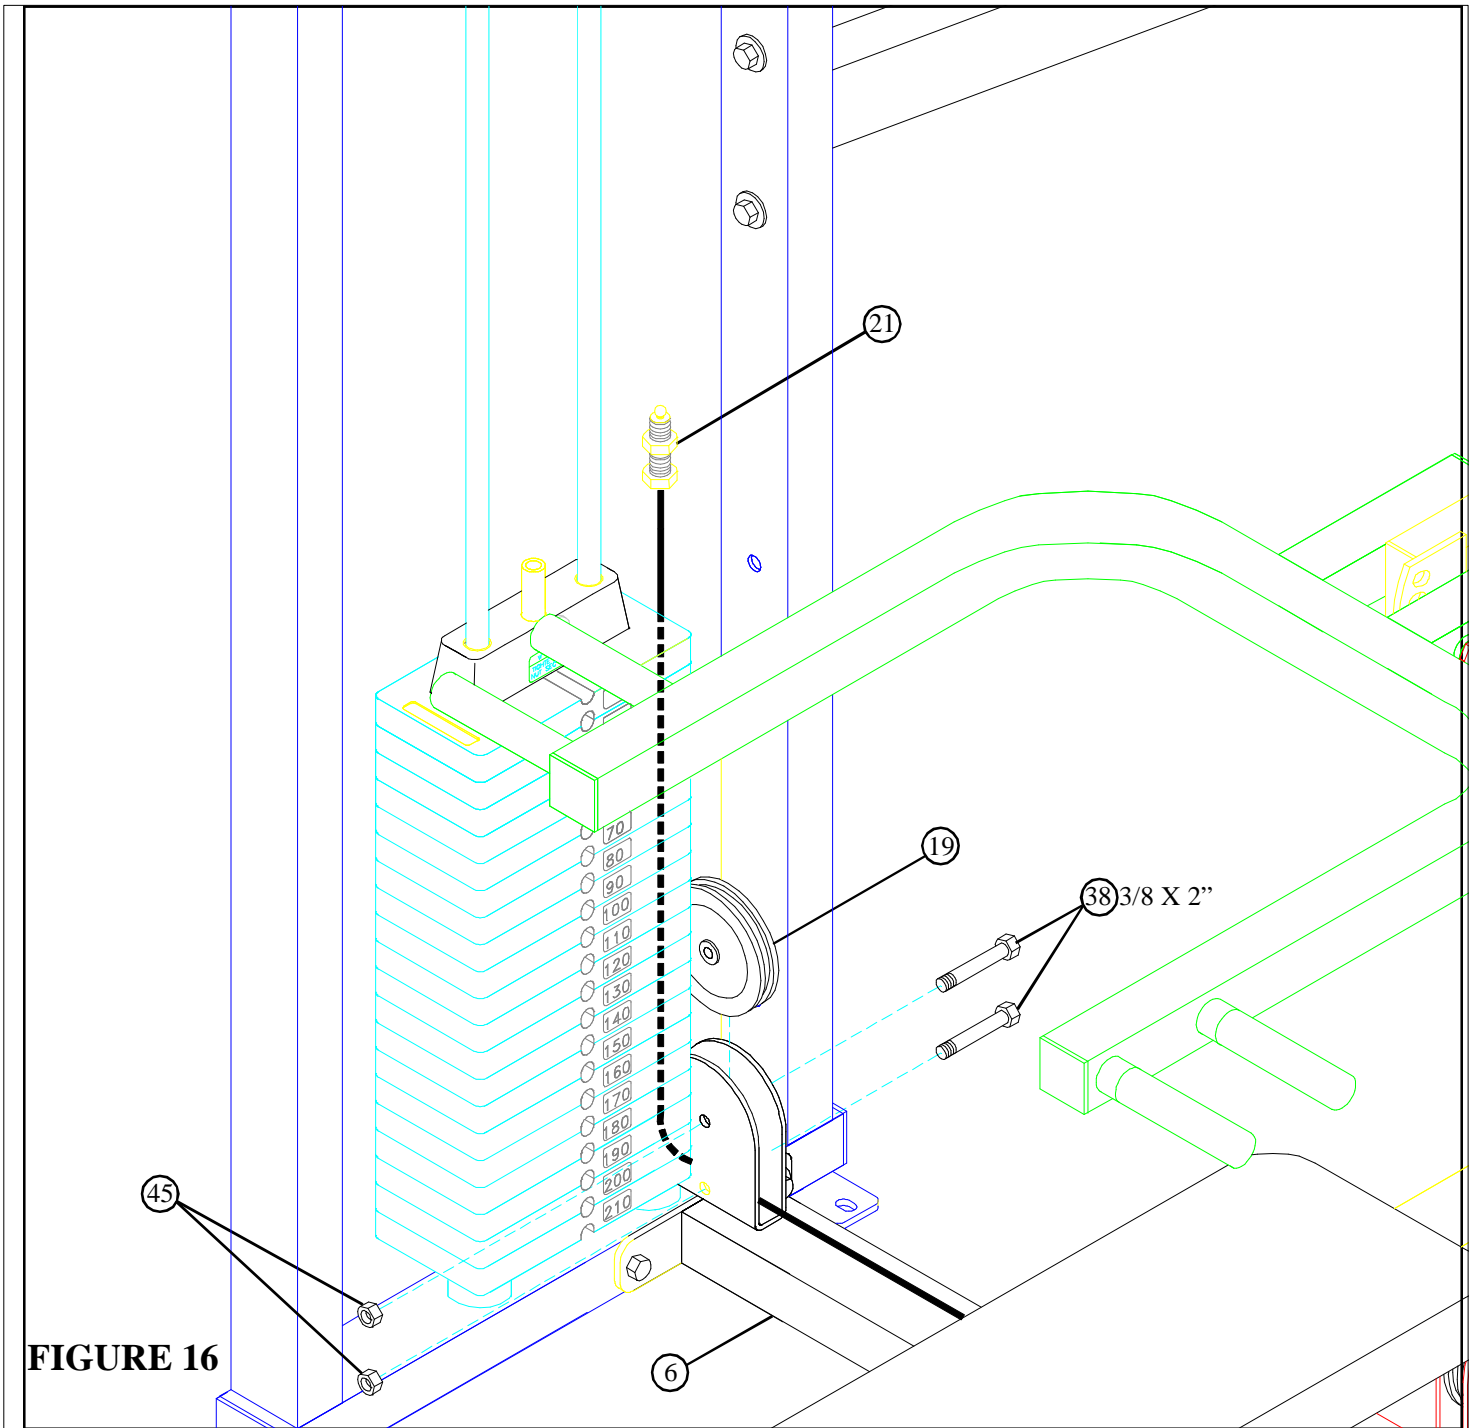

FIGURE 16
- Wrap the CABLE (21) around one 4-1/2" PULLEY (19) and **SECURELY** assemble the 4-1/2" PULLEY (19) to the vertical pulley bracket on the LOWER SUPPORT (6) using two 3/8 X 2" BOLTS (38) and two 3/8" LOCK NUTS (45) as shown in FIGURE 16. (**NOTE: Make sure CABLE (21) runs over the retaining bolt on the vertical pulley bracket.**)